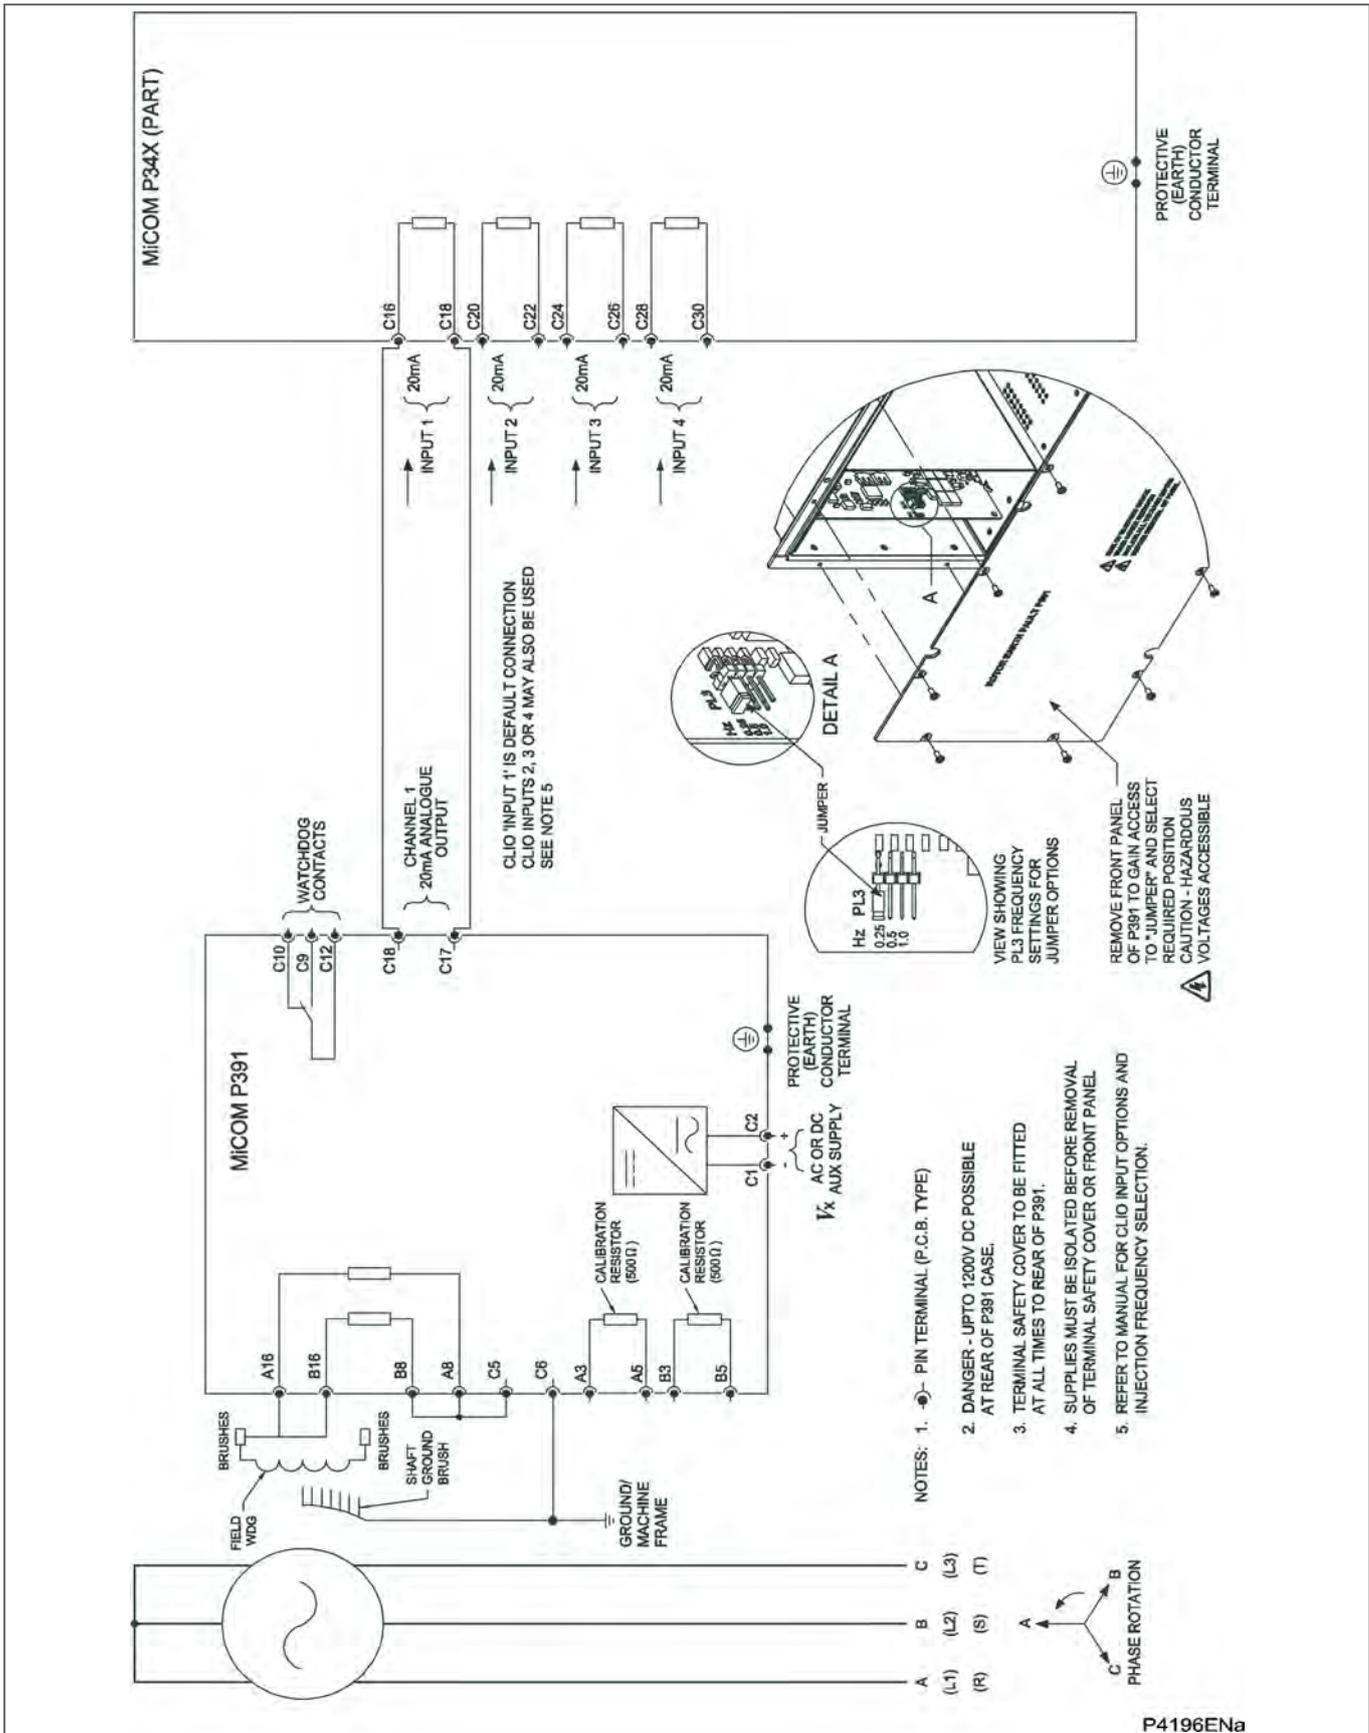

Figure 38 - P391 Rotor Earth Fault single ended field winding connection
- Figure 38 - P391 Rotor Earth Fault single ended field winding connection